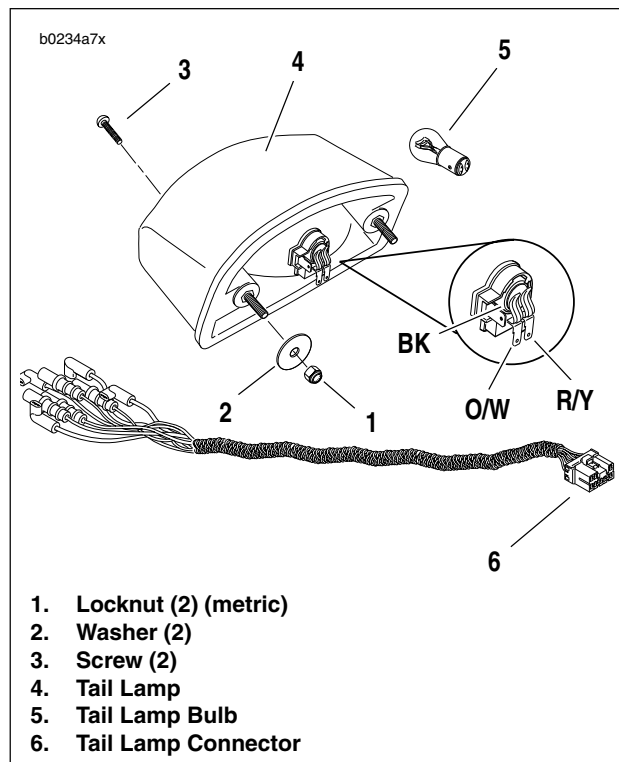

Figure 7-63. Tail Lamp
1. See Figure 7-63. If necessary, remove tail lamp bulb (5).
- a. Remove two screws (3) to detach tail lamp lens.
4. Remove two locknuts (1) (metric) and washers (2).
1. See Figure 7-63. Attach tail lamp to tail section with two washers (2) and locknuts (1) (metric).
3. If removed, install tail lamp bulb (5).
- b. Install tail lamp lens with two screws (3).